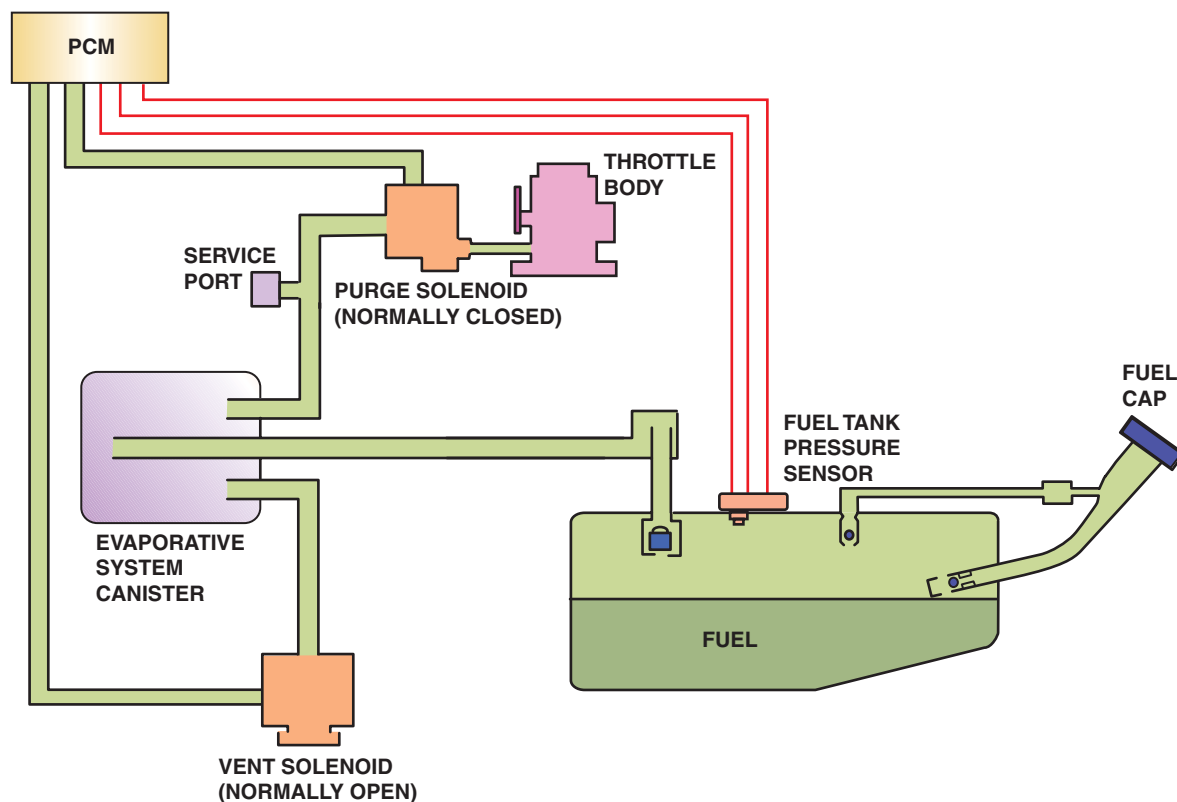

FIGURE 25-5 An enhanced EVAP system is able to perform system and leak detection diagnosis.
- All vehicles built after 1995 have enhanced evaporative systems with the ability to detect purge flow and system leakage. If either of these two functions fails, the system is required to set a diagnostic trouble code (DTC) and turn on the malfunction indicator lamp (MIL) to warn the driver of the failure. ● SEE FIGURE 25-5.